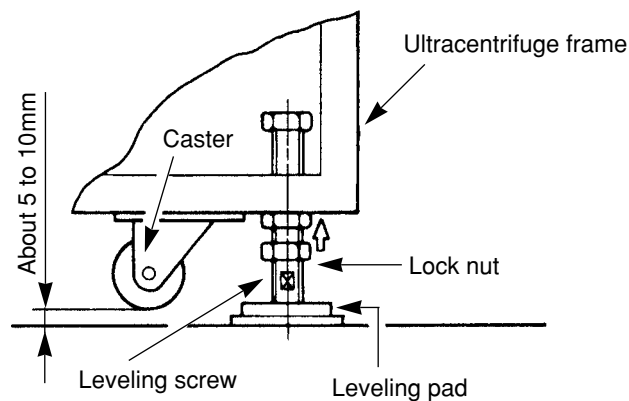

Fig. 5-2 Leveling adjustment
(3) Leveling
- ① Use the four leveling pads furnished with this ultracentrifuge.
- ② While referring to Fig. 5-2, apply the leveling pads to the four leveling screws, turn the leveling screws with a wrench until the casters are to 5 to 10 mm (1/8 to 3/8 inch) off the floor.
- ⑤ When micro-ultracentrifuge is level, make sure that the four leveling screws are fastened securely to the leveling pads and tighten the lock nut in the direction of the arrow in Fig. 5-2.